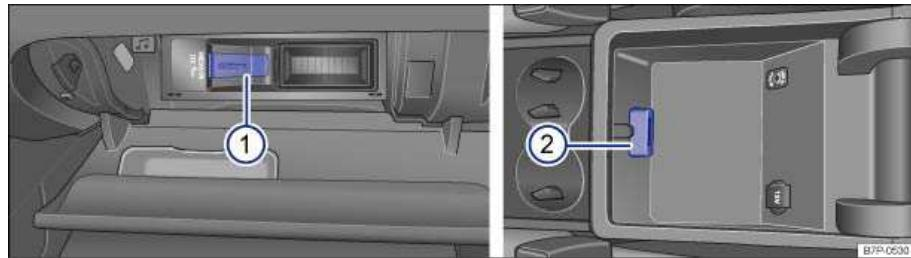

Fig. 161 MEDIA-IN multimedia jack.
The MEDIA-IN multimedia jack may be located in the glove compartment, or in the front center armrest storage compartment ⇒ fig. 161 (1) or (2).